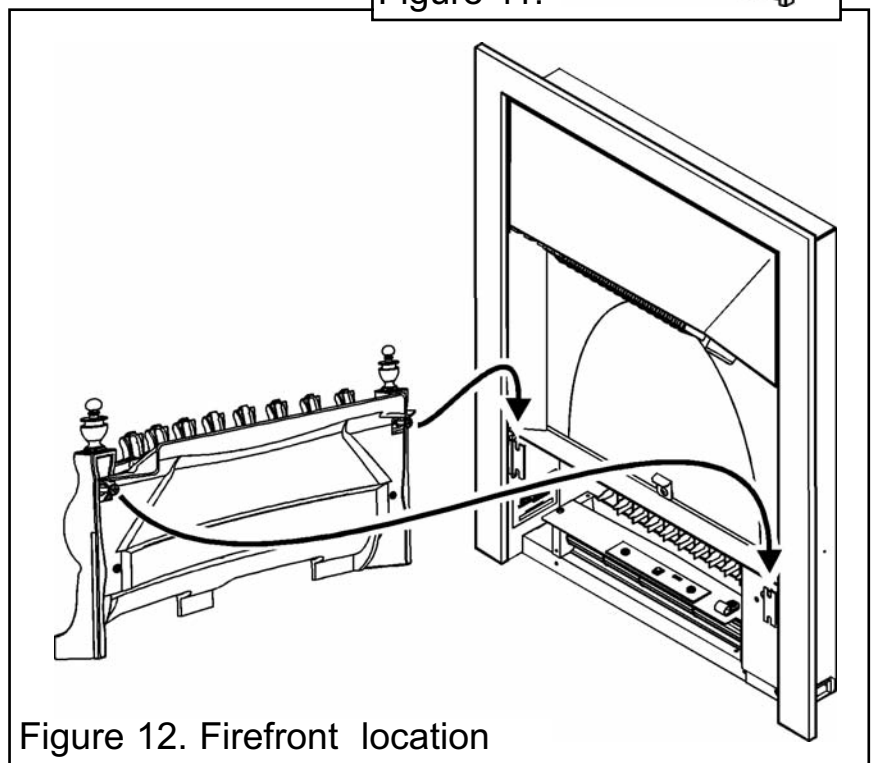

Figure 12. Firefront location
3. There are two hanging screws on the rear of the firefront. Locate these into the slots as in figure 12.